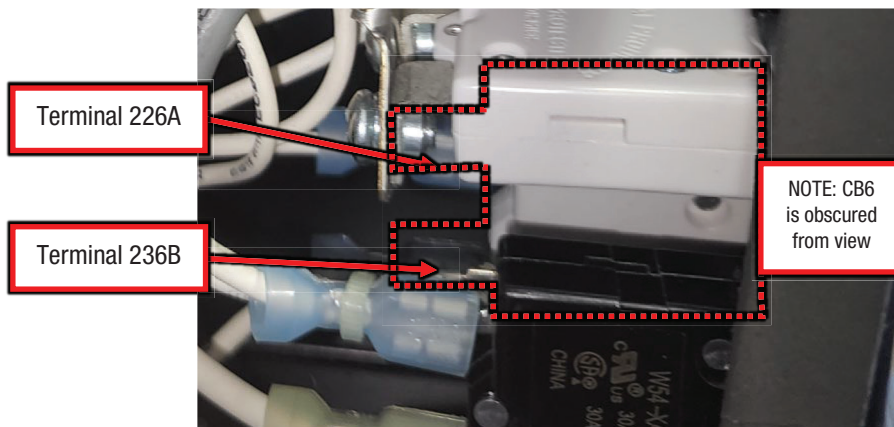

Figure F.3
- A.3. Perform the static measurements in Test Table 1, refer to Figure F.3 for test point locations. NOTE: MEASUREMENTS ARE MADE ON CB6 WITH THE LEADS REMOVED.